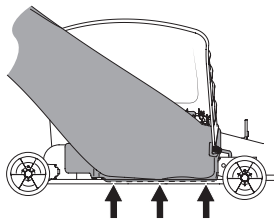

Figure 19
**NOTE:** Be certain that the bottom of the discharge chute is located inside of the lip of the deck opening, as shown in Figure 19.